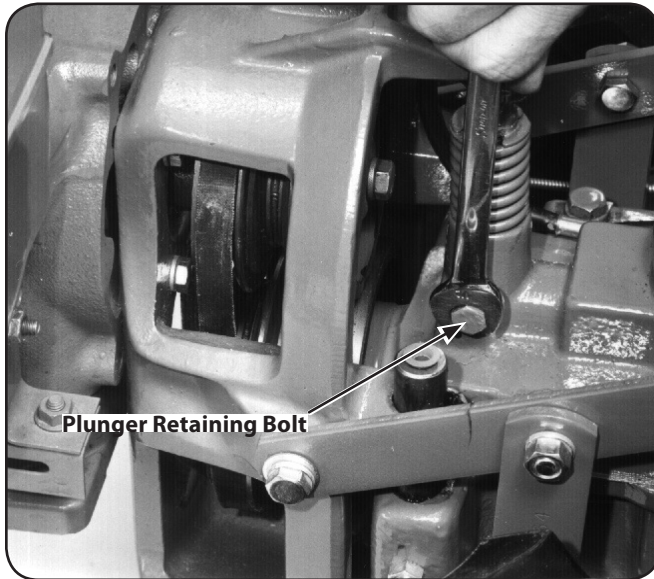

Figure 6-24
8. Place a chalk or pencil mark on the top edge of the plunger retaining bolt. Now, while watching the mark, loosen the bolt $\frac{3}{4}$ -turn. See Figure 6-24. Do not exceed a $\frac{3}{4}$ turn. This would disengage the bolt from the locking groove in the side of the plunger.